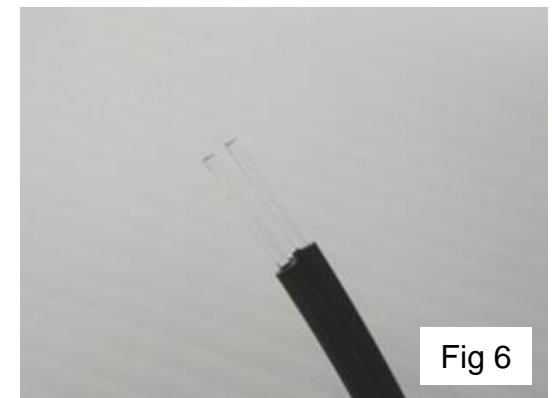

Fig 6
- After stripping, the fibers should appear as they do in Figure 6.